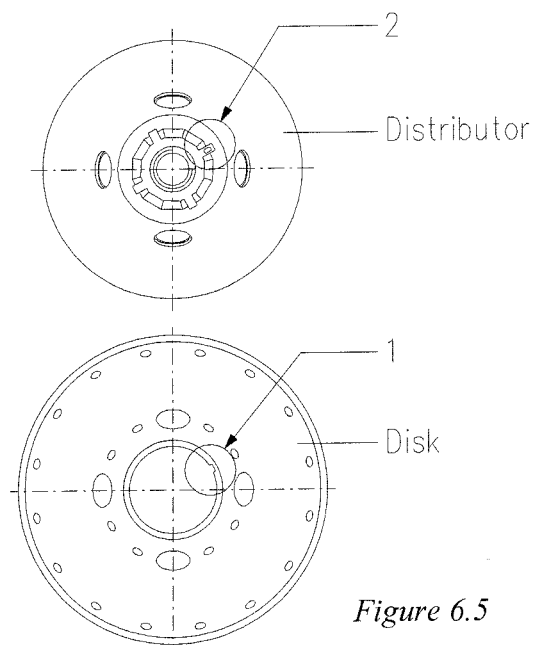

Figure 6.5
- 5) Insert the **disks**. The disks can be inserted in the distributor only in one way. As shown in Fig. 6.5, over the distributor is marked a big "O" that must be aligned with "O" marks of the bowl body. To insert disks, rotate them until the small slot (1- fig. 6.5) made on the internal upper edge is aligned with the small "o" marks of the distributor (2); then make them glide on the distributor fins. Insert at first the **bottom disk** (Fig. 6.1, part 4) that distinguishes itself by having spacers on both surfaces. Then insert the intermediate disk (Fig 6.1, part 5). Take care to not change the sequence of the disks.